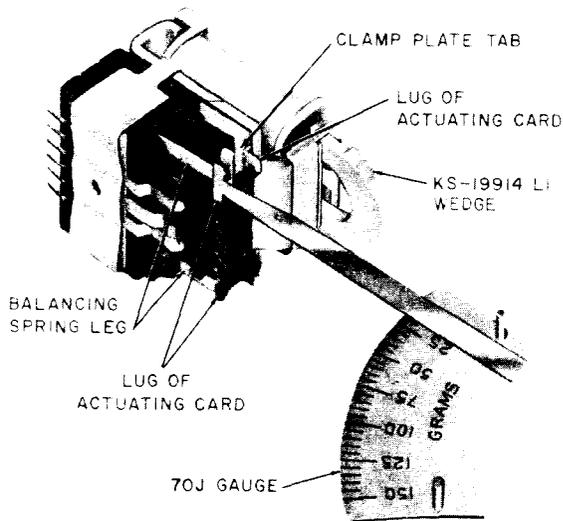

Fig. 10—Measuring Tension of Balancing Spring Leg
- (1) If the requirements for armature back tension and balancing spring tension are not met, proceed as follows: With the cover removed, block the relay operated using the KS-19914, L1, wedge (see Fig. 10). Then measure the tension of each balancing spring leg. To do this, position the tip of the 70J gauge against the lug of the actuating card at the end of the balancing spring leg as shown in Fig. 10. Move the gauge toward the actuating card until there is an observable gap between the clamp plate tab and the associated lug of the actuating card. With the gauge in this position, note the tension on the gauge.
- (2) If there is considerable difference between the tensions of the balancing spring legs, adjust the leg having the lower tension to a value approximately equal to that of the other leg, using the spring adjuster as covered in (3), (4), and (5). If the requirements are still not met, increase or de-